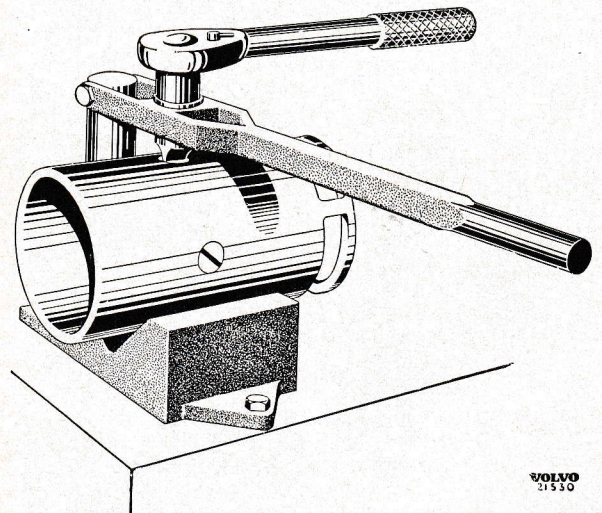

Fig. 49. Removing the field winding.
2. Place the dynamo housing in a V-block as shown in Fig. 49. Press down at the same